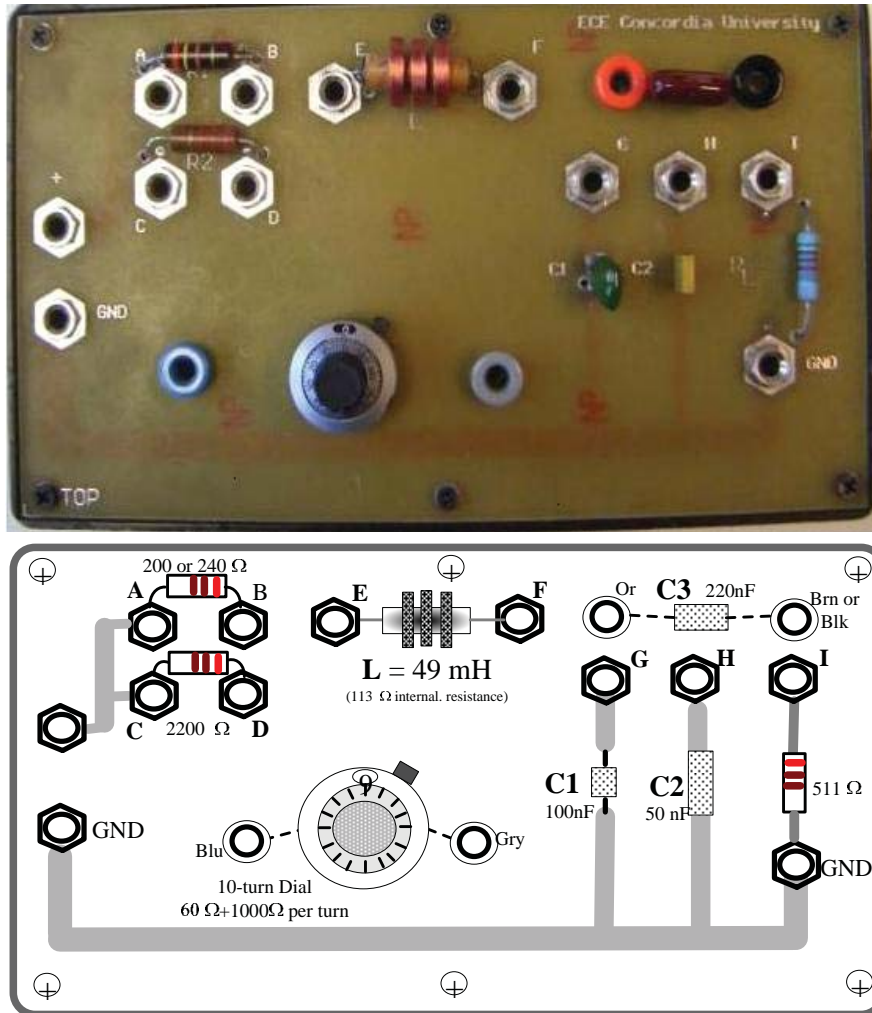

Figure 3.5
The experiments are performed using a component box whose photograph is shown in Figure 3.5 together with an outline drawing of the panel. Several components are mounted on the box along with banana-jack terminals, which are used for onboard as well as input-output interconnections. A detailed terminal-reference list is given following the figure. Some internal connections are already made between the terminals as seen in the outline drawing. Banana-plug patchcords of various lengths and colours, which are available in the lab, are used to make all interconnections. The box has 3 resistors of fixed **nominal** values of  $200\Omega$ (or  $240\Omega$ ),  $2.2\text{ k}\Omega$  and a ‘grounded’  $511\Omega$  and one variable resistor [fitted with a 10-turn, turns-counting dial] whose effective terminal value can be varied continuously from  $60\Omega$  to  $10,060\Omega$ . Two ‘grounded’ capacitors having **nominal** standard values of  $50\text{nF}$  and  $100\text{nF}$  are provided along with an ‘ungrounded’  $220\text{nF}$  capacitor. The on-board inductor has a **nominal** value of  $49\text{mH}$  and it has an ‘internal’ series resistance of  $\approx 113\Omega$  which must be taken into account in calculations.
**Terminal Connection Reference** (for Figure 3.5)